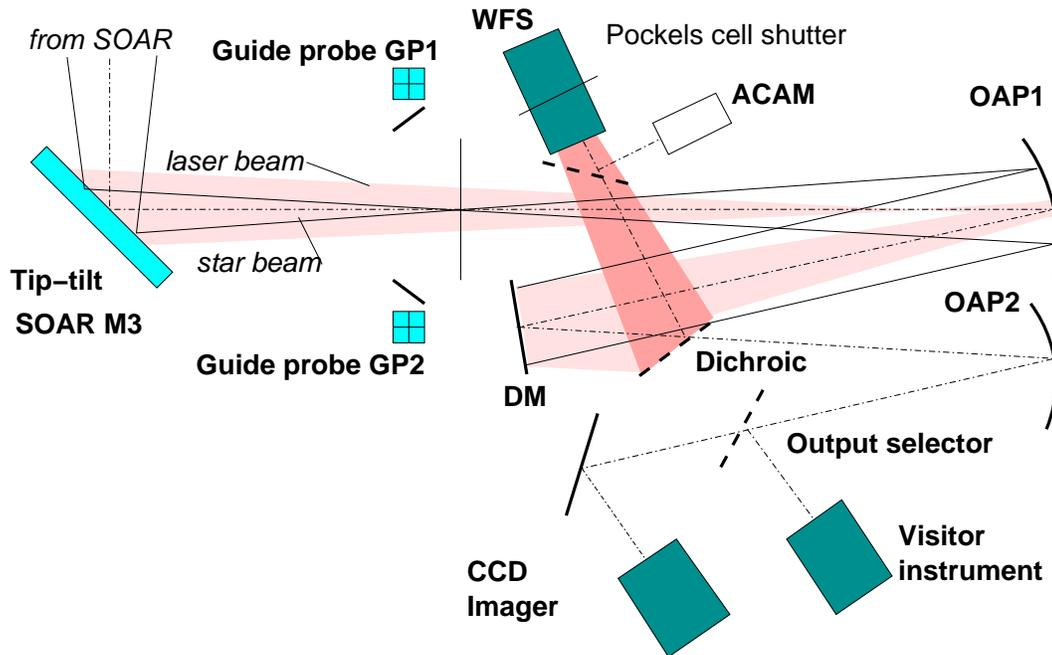

Figure 2: Schematic diagram of the SAM AOM.
The light path inside AOM (Fig. 2) shows how turbulence is compensated. The first active element is the SOAR tertiary mirror M3 that corrects tip-tilt, like in other SOAR instruments. However, SAM does not use the standard ISB guider and has its own two guide probes inside the AOM, right at the focal plane. The science target is then re-imaged on the CCD by means of two off-axis parabolic mirrors (OAPs) and a deformable mirror (DM) which corrects defocus and other wavefront deformations. After OAP2, the corrected image can be directed either to SAMI or to the visitor instrument by a movable output-selector mirror.